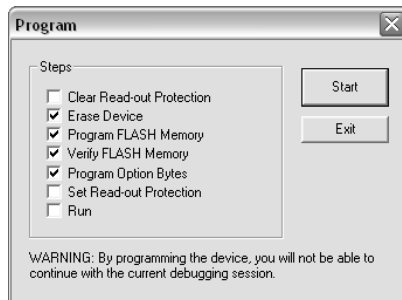

Figure 7.3: Program Dialog Box
16. From the main menu choose **Debug instrument > Program** and set all the parameters according to “Figure 7.3: Program Dialog Box” on page 63.